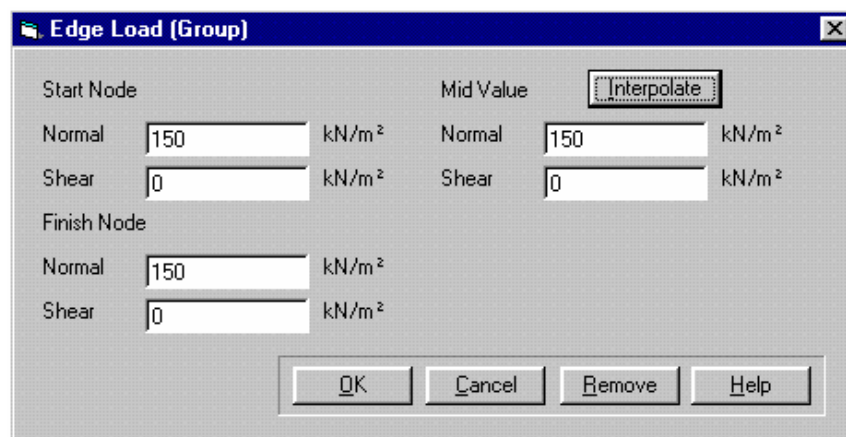

Figure 3-15: Defining a Triaxial Cell Pressure
- Step 6** The Edge Load dialogue box should now look like Figure 3-15. Click on OK to exit once you have finished.